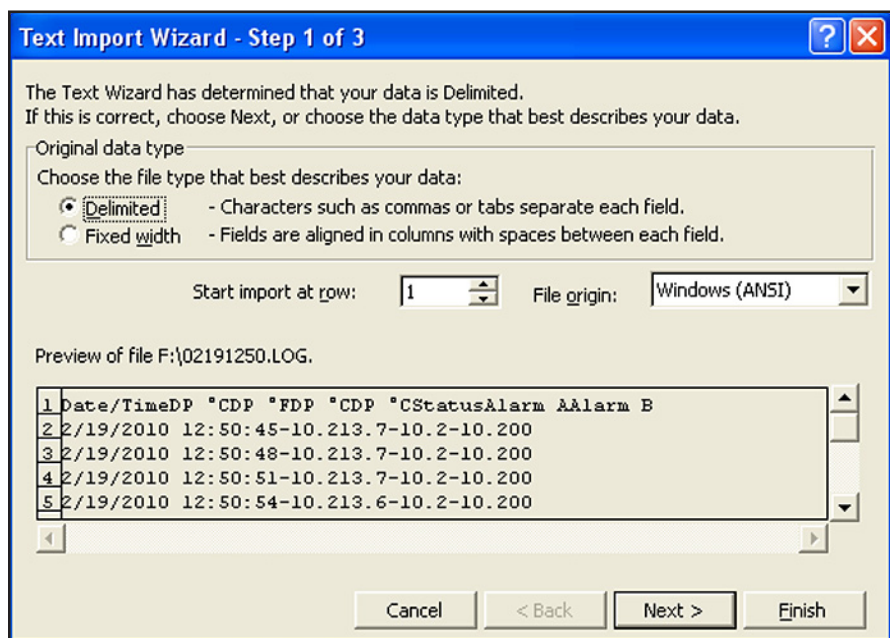

Figure 59: Microsoft Excel Import Wizard - Step 1
1. Make sure that the file type is set to “All Types” and then open the selected log file by double clicking on the file name. A window similar to the one in *Figure 59* below will open.